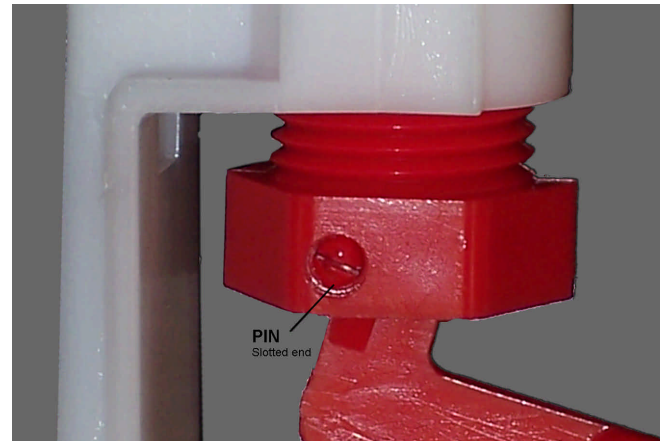

Figure 1
Step 2—Remove cam by removing the valve pin. Do this by pressing on the edge of the slotted end. (See Figure 1). This will close the gap and allow the pin to be pressed through.